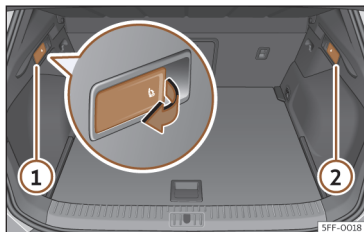

Fig. 103 In the luggage compartment: levers to unlock the rear backrest.
- Pull the remote release lever of the left >>> **Fig. 103** ① or right ② parts of the backrest in the direction of the arrow. The released part of the rear seat backrest is folded automatically down and forwards.